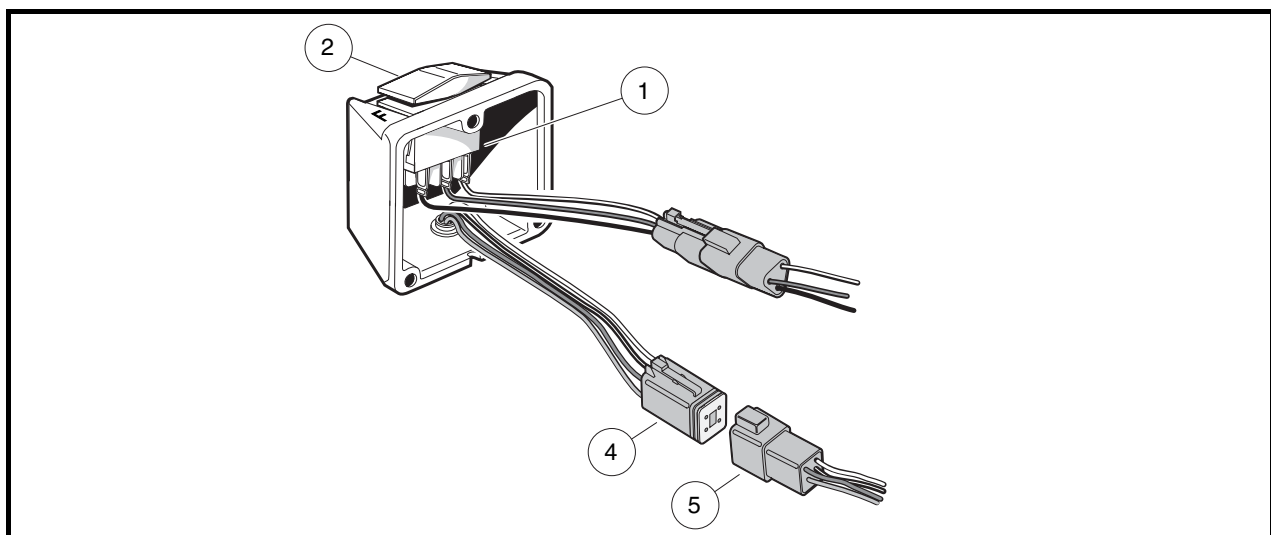

Figure 12-7 Forward/Reverse Rocker Switch With IQDM Jack
- 3.1. Remove the three self-tapping screws that hold the F&R rocker switch case (2) to the body (**Figure 12-7**).